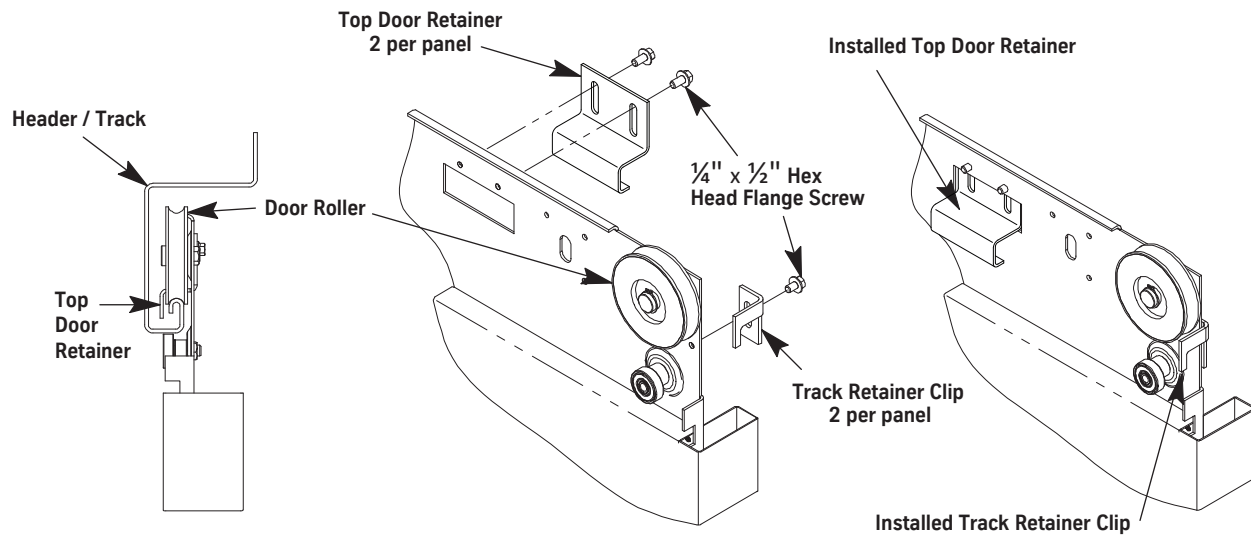

Figure 19 - Top Door Retainer
1. On each side of the door panel, use the provided hardware to install a top door retainer on the hanger. See Figure 19 on page 7-20.